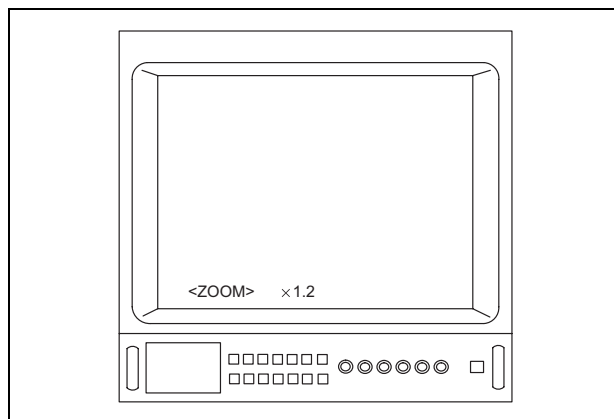

Figure 5.69
2. Pressing the switch toggles between $1.0\times$ magnification and $1.2\times$ when using the ENF-V, CYF-V/VA or HYF-V (see Figure 5.69).
The menu shown in Figure 5.69 appears when the electrical magnification is $1.2\times$. Depending upon an electrical magnification, the menu shown in Figure 5.69 may appear different from that displayed on the video monitor.
3. Each time the switch is depressed, the zoom cycles through $1.0\times$ magnification, $1.2\times$, $1.5\times$ and $2\times$ when using a camera head or videoscope other than those described in step 2. (see Figure 5.69).
1. Press the “F7” key. Pressing this key toggles between 1.0 × magnification and 1.2 × when using the ENF-V, CYF-V/VA or HYF-V (see Figure 5.69).
2. Each time this key is depressed, the zoom cycles through 1.0 × magnification, 1.2 ×, 1.5 × and 2 × when using a camera head or videoscope other than those described in step 1. (see Figure 5.69).